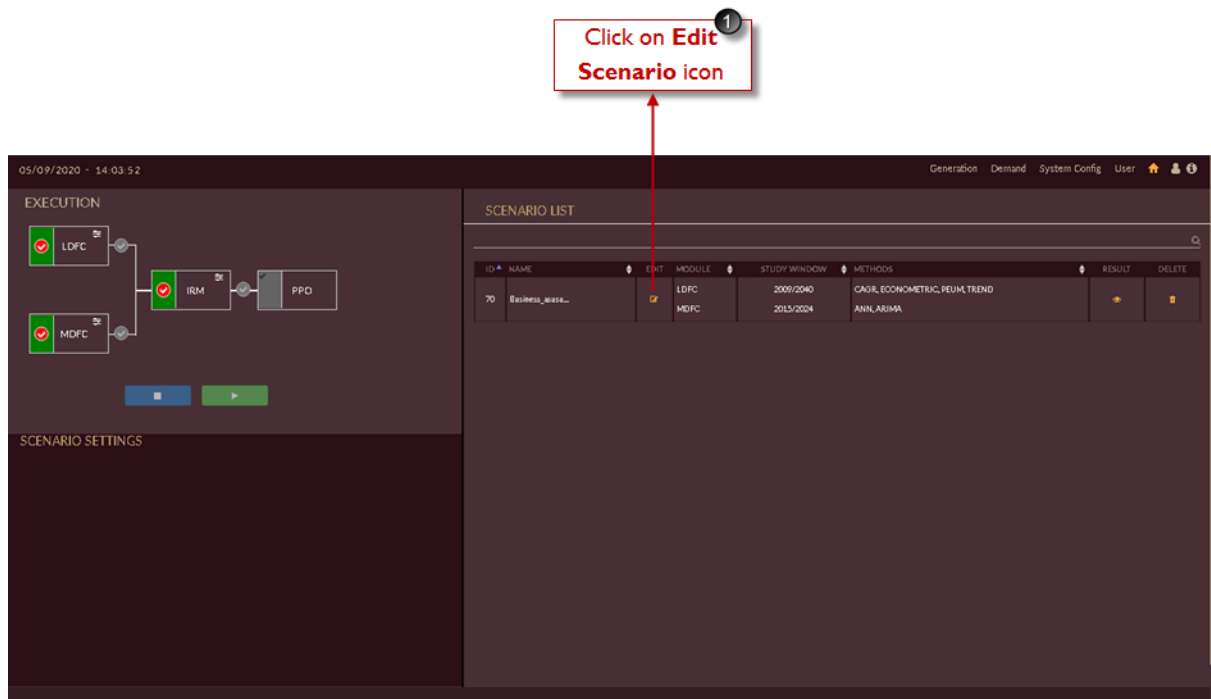

Figure 84. Select Scenario to be Executed
1. Go to scenario list page as shown in Figure 84 and click on **Edit Scenario**  icon for the scenario which you need to execute.